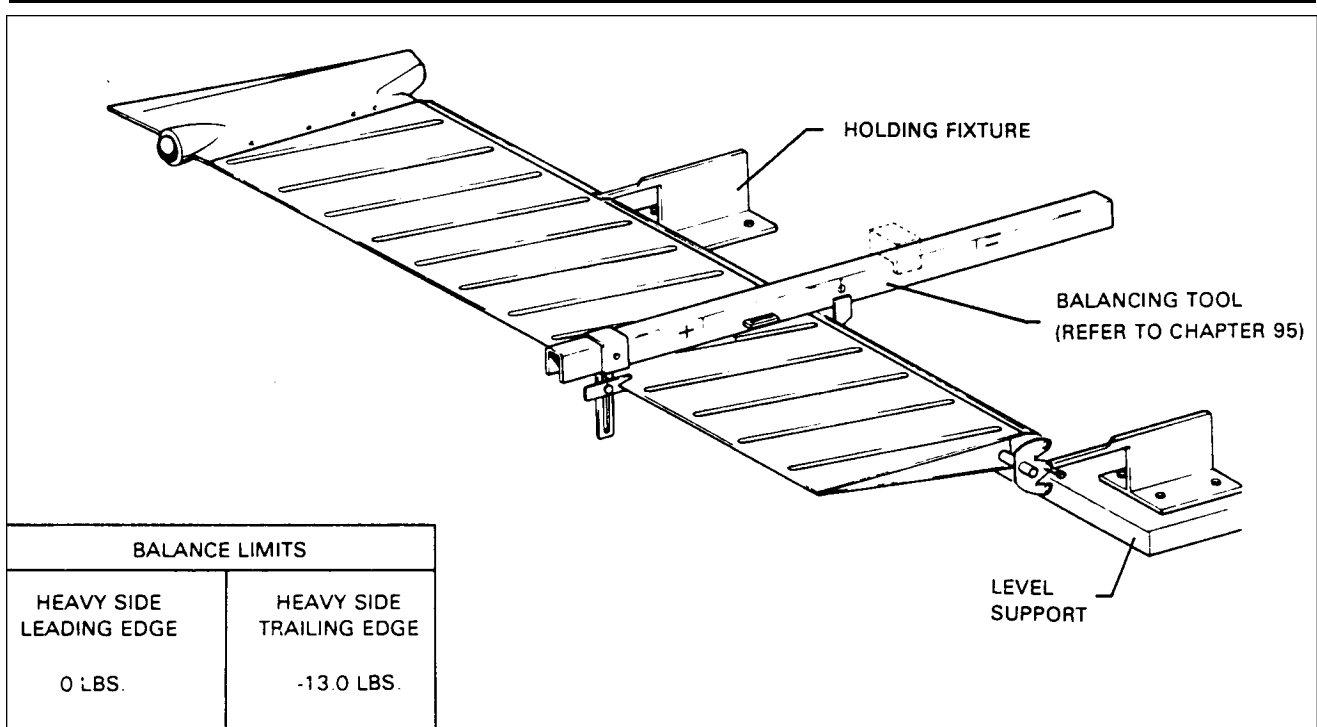

Figure 55-4. Rudder Balance
BALANCING RUDDER (figure 55-4)
3. If the static balance is not within the limits given in figure 55-4, proceed as follows:
A non-adjustable mass balance weight is molded in the nose of the rudder tip. All rudders should be maintained within static balance weights provided in figure 55-4.